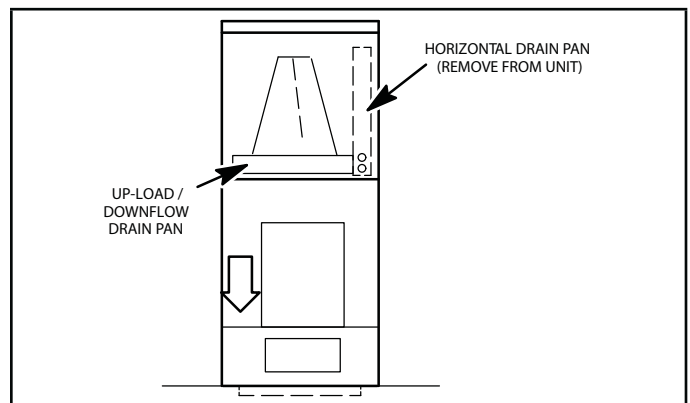

FIGURE 11. Downflow Discharge Position
- 2 - For best efficiency and air flow, remove the horizontal drain pan from the units in downflow positions as illustrated in figure 11.
- 3 - Rotate cabinet 180° from the upright position. See figure 11. You may need to first remove the blower assembly to lighten the cabinet for lifting.